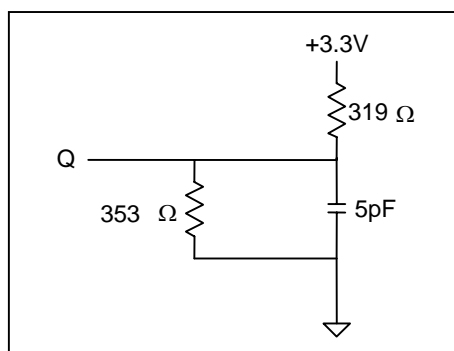

Figure 2
3. The load used for V_{OH}, V_{OL} testing is shown in Figure 2. AC load current is higher than the shown DC values. AC I/O curves are available upon request.
2. Output loading is specified with C1=5pF as in Figure 2.